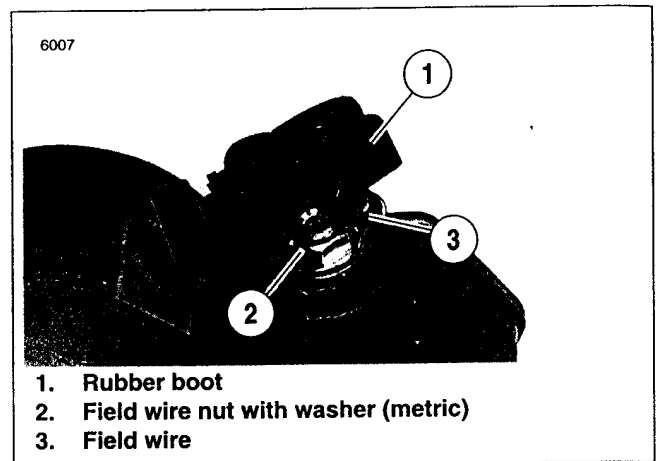

Figure 5-12. Field Wire
2. See Figure 5-12. Lift rubber boot (1). Remove field wire nut with washer (2) to detach field wire (3).